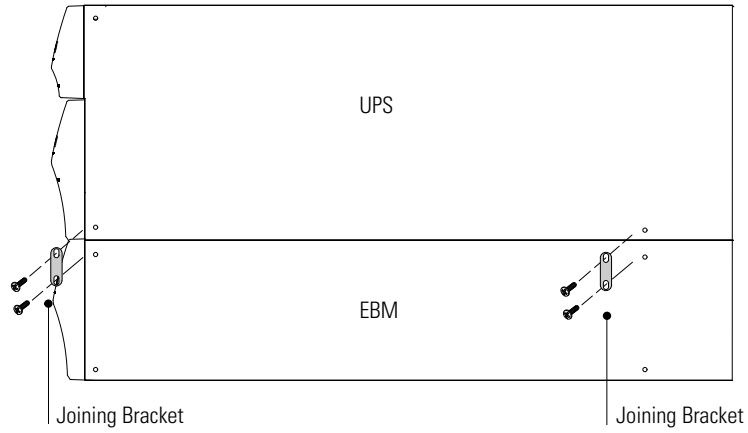

Figure 2. Installing the Joining Brackets (Top View)
2. Align each joining bracket with the adjacent cabinet screw holes and secure with the supplied screws (see Figure 2).